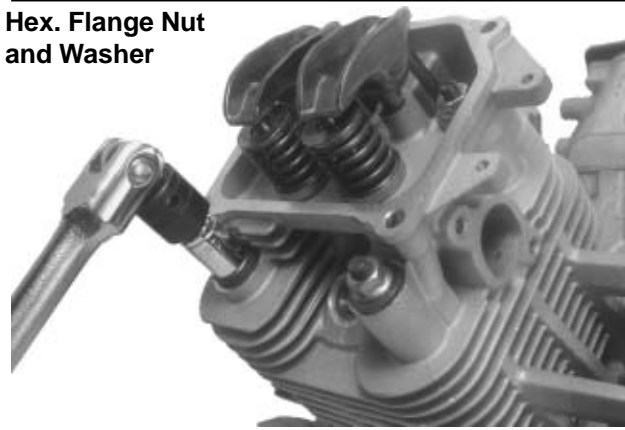

Figure 9-46. Removing Cylinder Head Fasteners.
1. Remove the four hex. flange screws or hex. nuts and washers securing each cylinder head. See Figure 9-46. Discard the screws or nuts and washers once removed. Do not reuse. Studs (if present) should only be removed if damaged or if cylinder reconditioning is necessary. Once removed, they must be replaced.